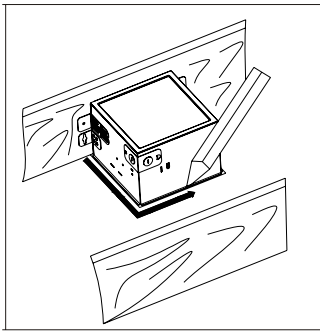

Fig.7
2. In attic, position mounting brackets against joist. Trace outline of housing on ceiling material.(Fig.7)